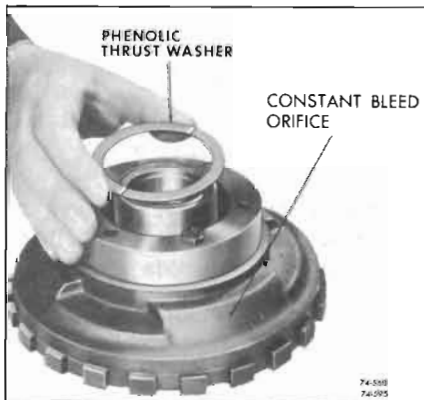

Figure 74-595
16. Install phenolic center support to reaction carrier thrust washer into the recess in the center support. Retain with petrolatum. See Figure 74-595.